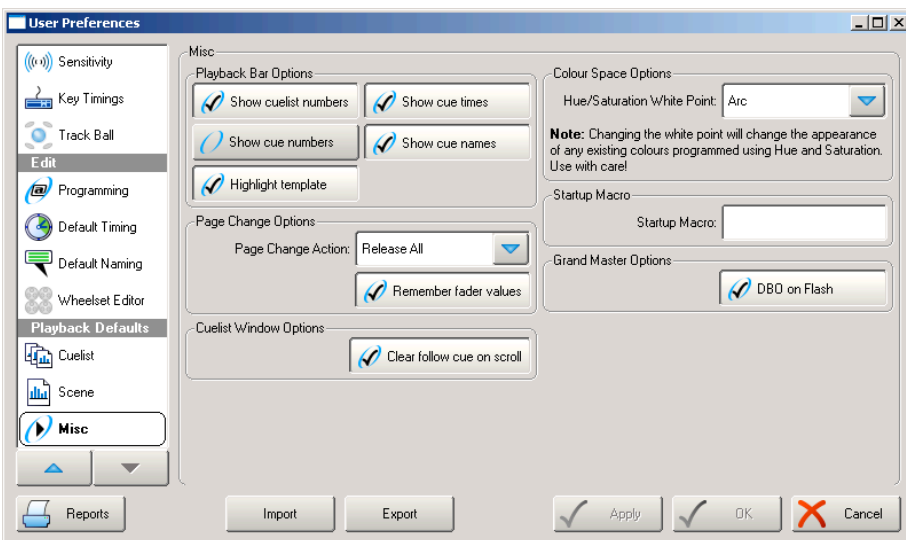

Figure 26.1. The Misc pane of the User Preferences window
- Setup → Preferences → Misc : see Figure 26.1, "The Misc pane of the User Preferences window".